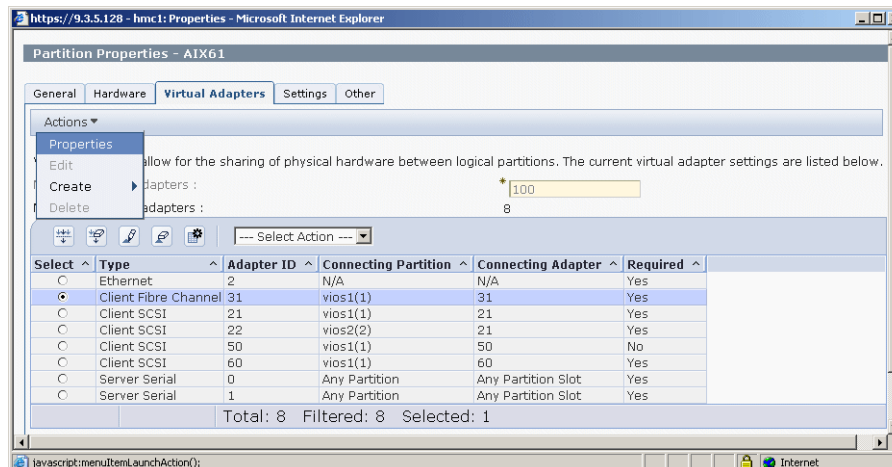

Figure 2-37 Select virtual Fibre Channel client adapter properties
- i. Select the appropriate virtual I/O client partition, then click **Task** → **Properties**, expand **Virtual Adapters** tab, select the Client Fibre Channel client adapter, click on **Actions** → **Properties** to list the properties of the virtual Fibre Channel client adapter, as shown in Figure 2-37.